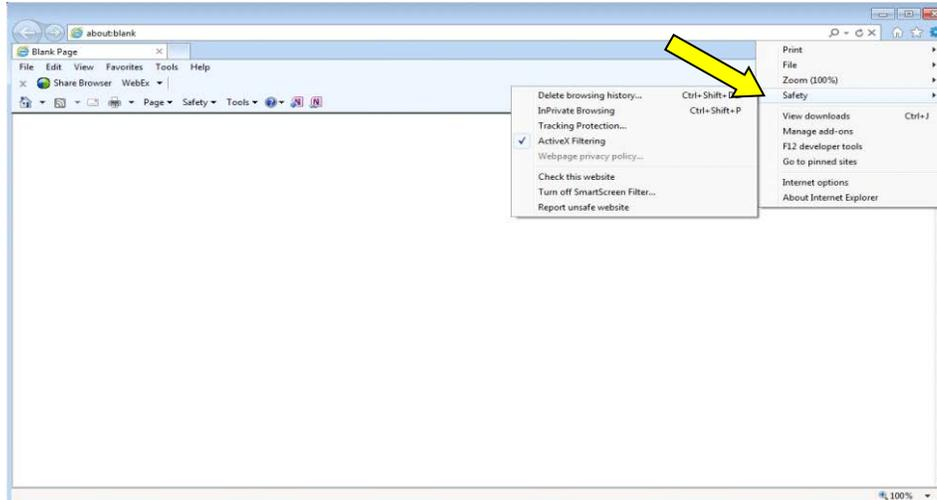

Figure 5-11: **Safety** sub-menu in Internet Explorer 9
- b. Hover over the Safety menu option to expand the **Safety** submenu, as shown in Figure 5-11.